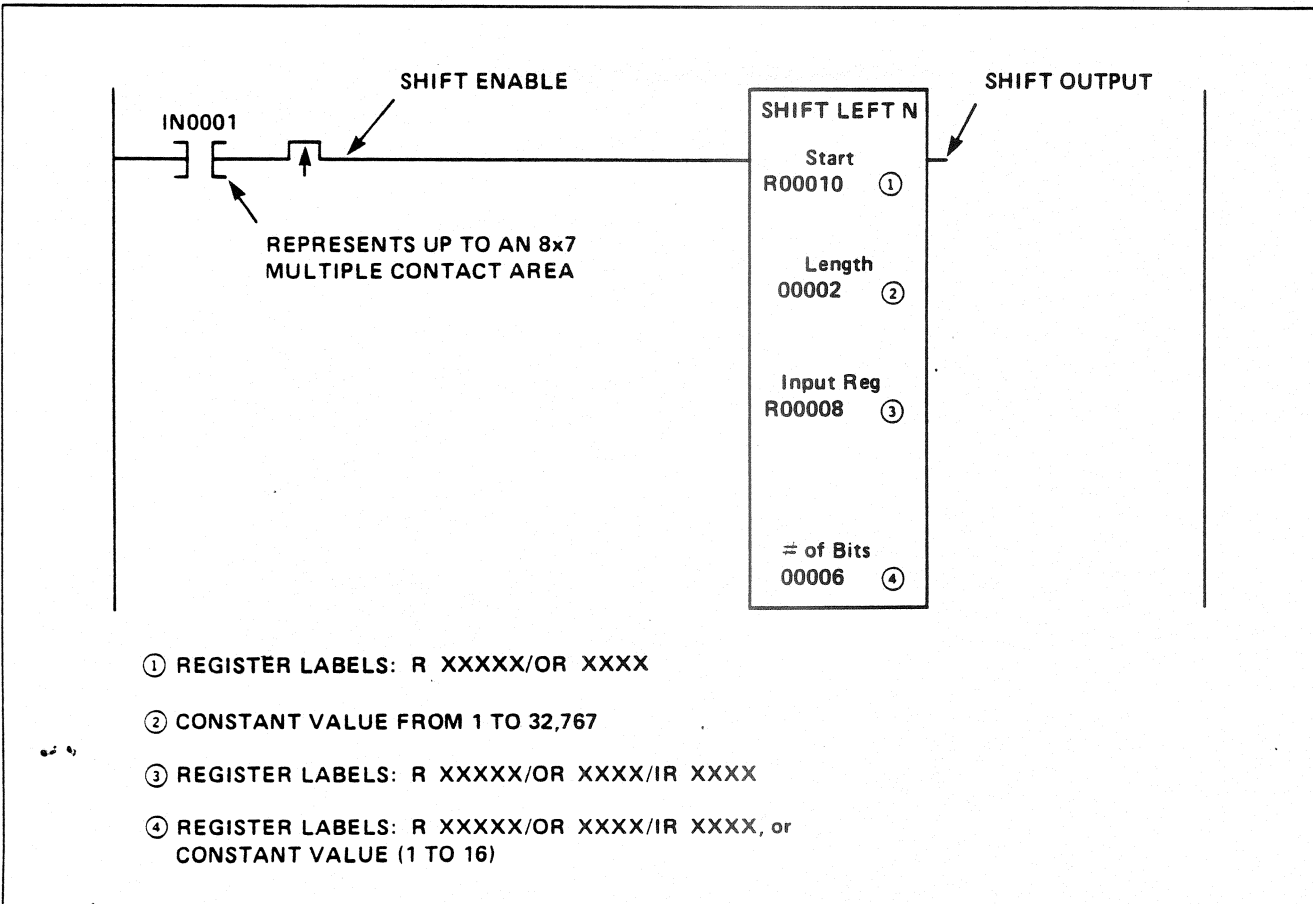

Figure S-1. Shift Left N Circuit (Typical)
See the typical circuit in Figure S-1 and note the following 3 points:
1. The example shown uses the following values from Figure S-1: 6 bits shifted; a 2-register shift register starting at R00010; Input Register R00008.